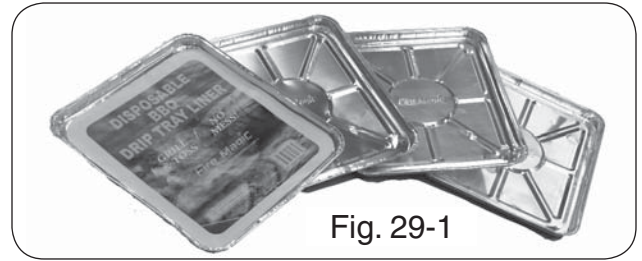

Fig. 29-1
Your grill includes a pack of four (4) Fire Magic® drip tray liners (Fig. 29-1). For your convenience in cleanup, place a liner into the drip tray before grilling.